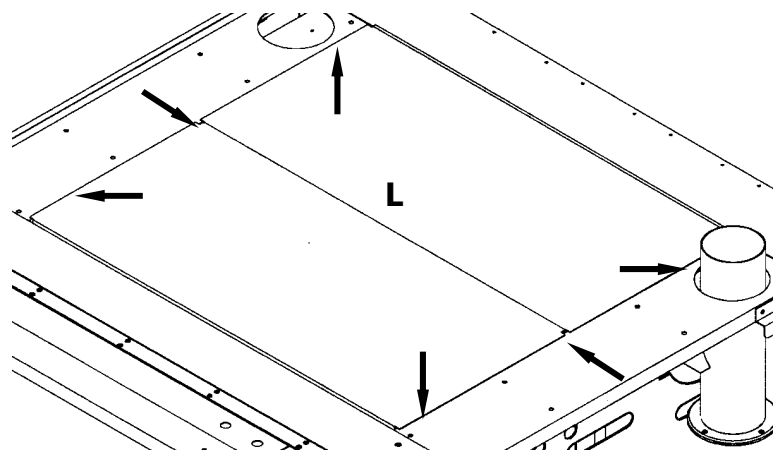

Figure 5
- h. Place insulation panels (L) onto oven top (Figure 5) fitting into the top of the oven to cover the insulation. There are 3 screws (M) down each side to secure the 2 panels.